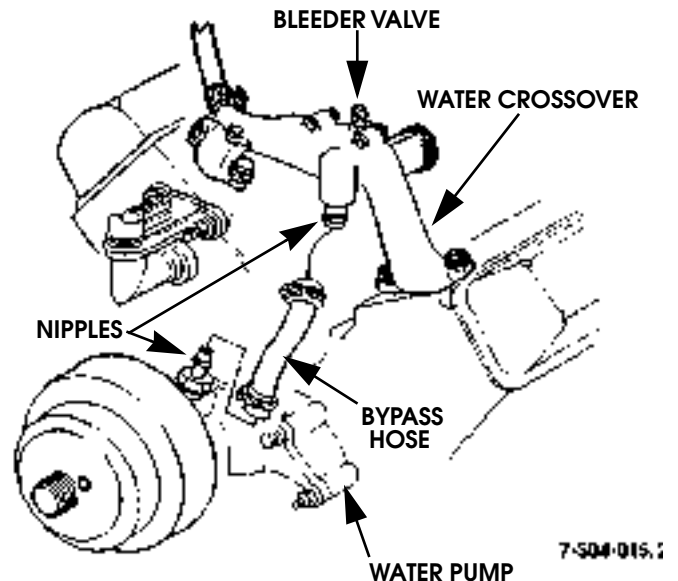

Figure 4-14: Thermostat Bypass Hose Replacement
2. Loosen two clamps and remove bypass hose from nipples on water pump and water crossover (Figure 4-14).
1. Secure bypass hose to nipples on water pump and water crossover with two clamps (Figure 4-14).